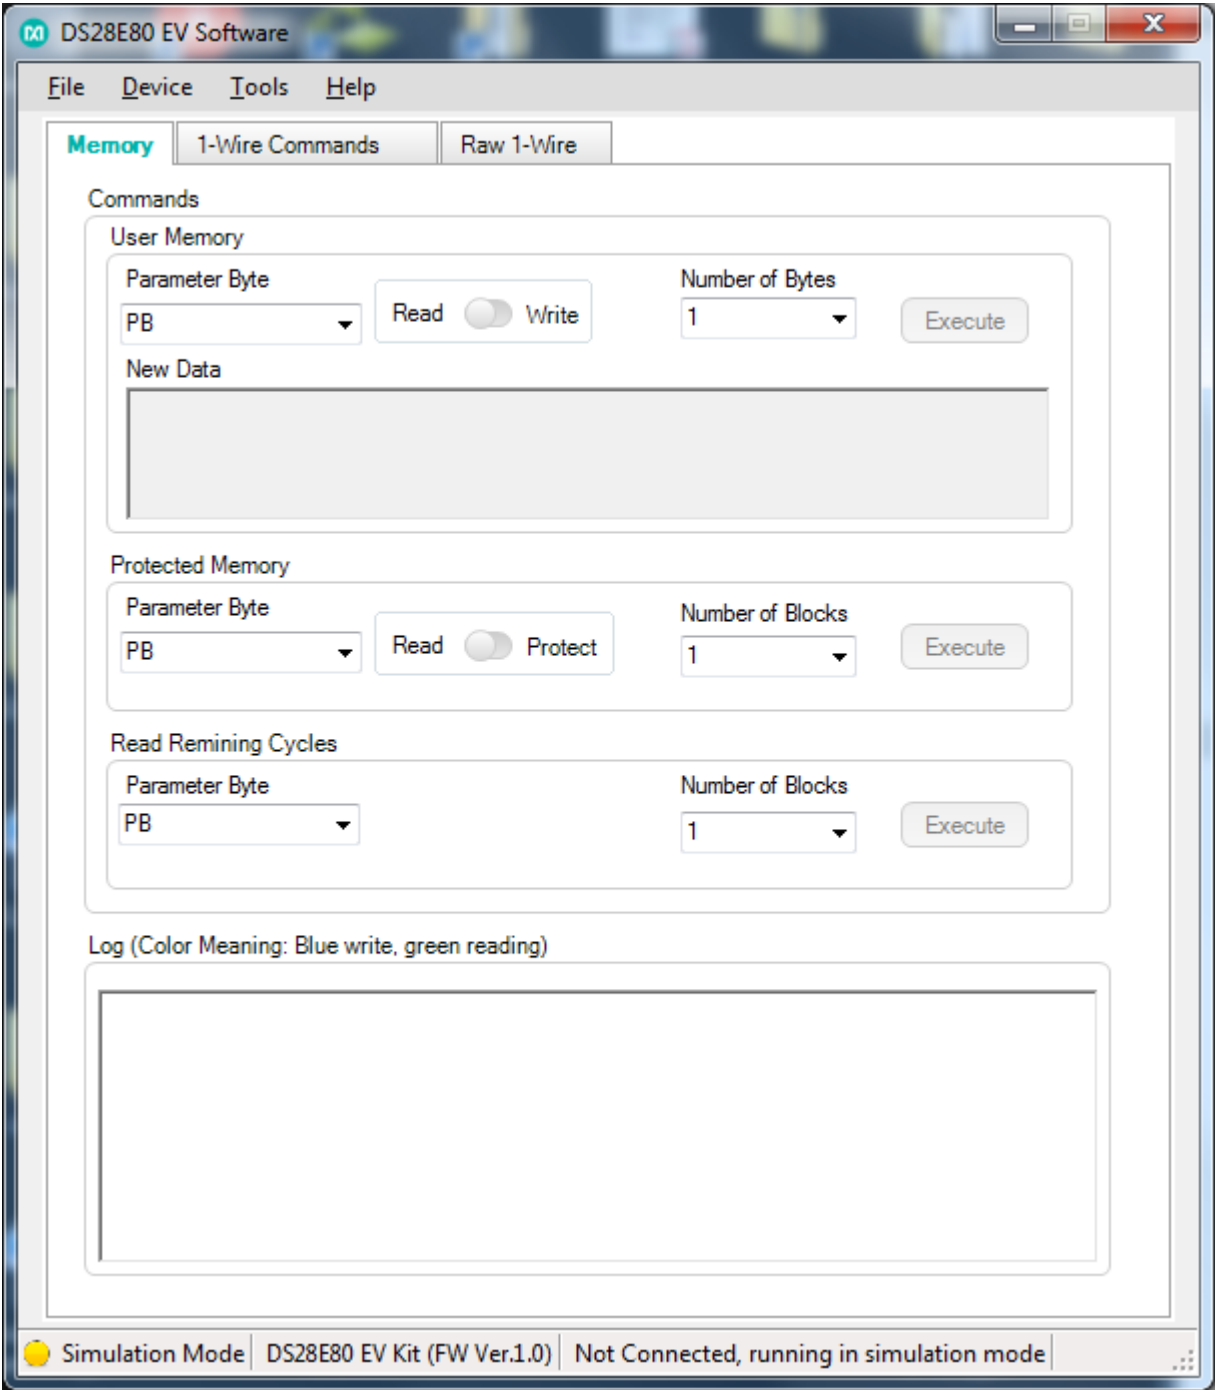

Figure 4. Initial Screen
- 7) When properly installed, the graphical user interface (GUI) window shown in Figure 4 should appear.